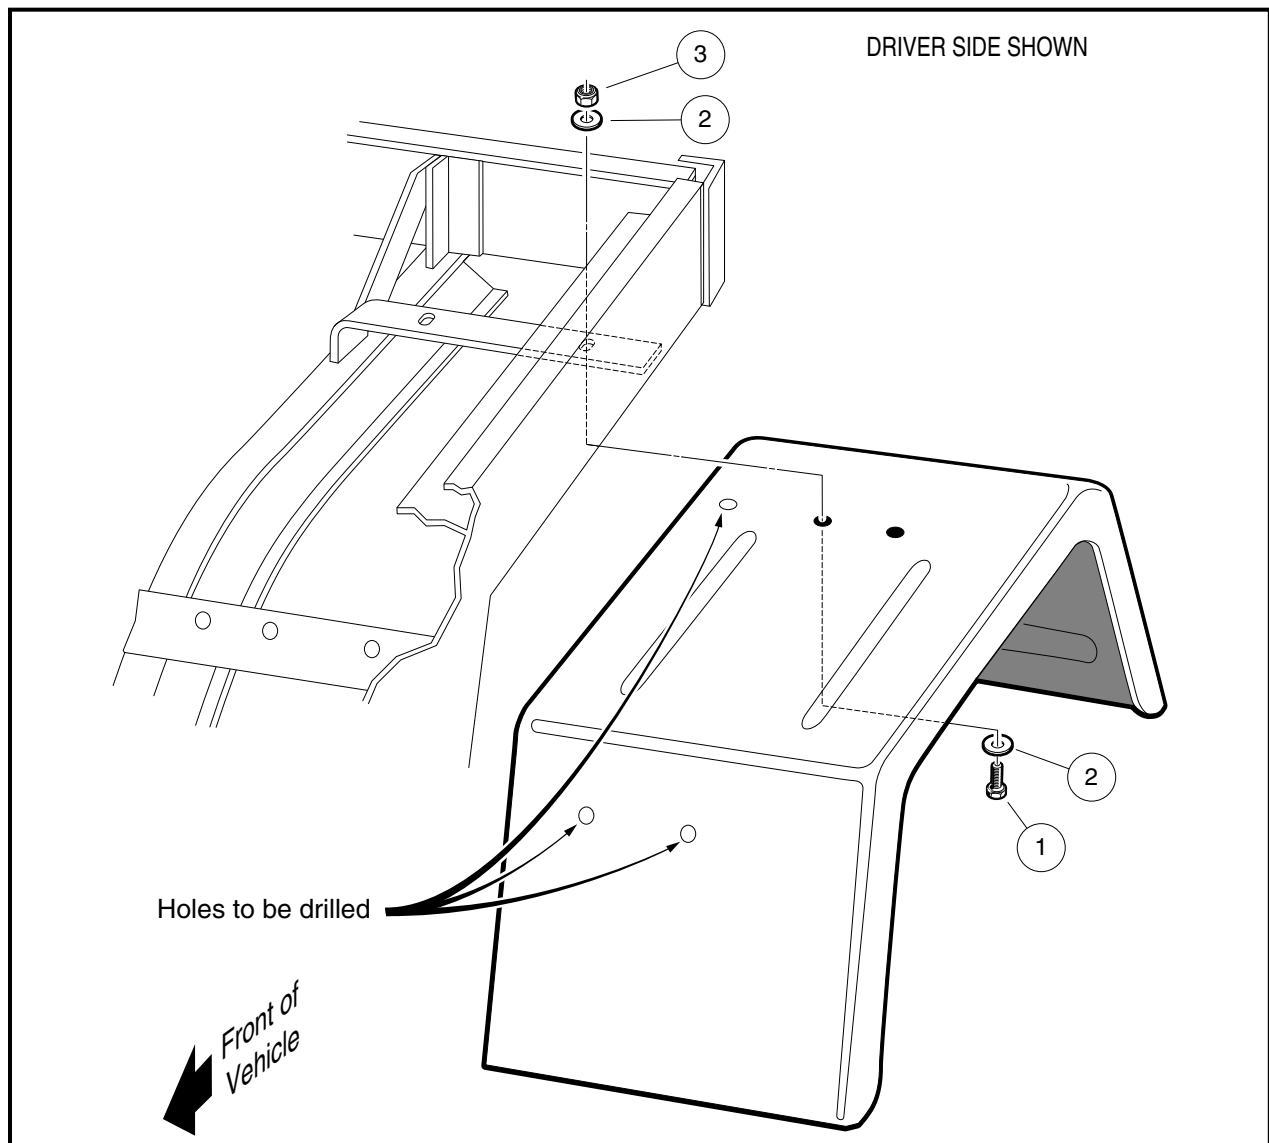

Figure 1 Install Hardware in Fender Hole
3. Position a fender in the vehicle, align the hole in the fender with the slot in the frame as shown and install bolt (1), large flat washers (2), and lock nut (3) (**Figure 1**). Finger-tighten only at this time.